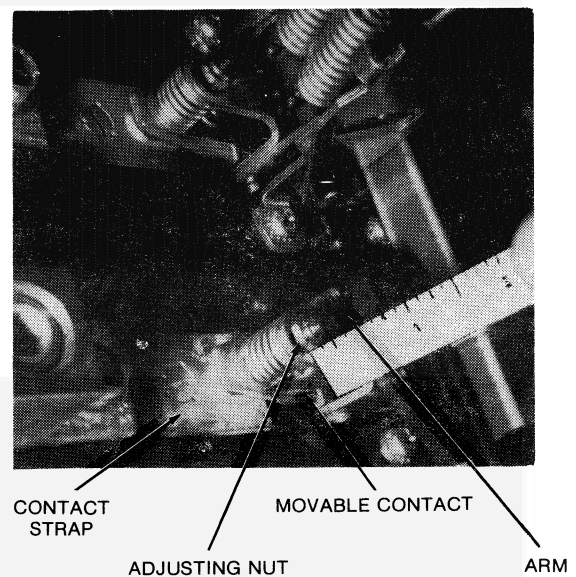

FIGURE 31. 100 AND 150 AMPERE OT CONTACT ADJUSTMENT
28. Move the actuator handle so that you close the contacts just installed. Adjust the nut for each contact until it has a clearance of 0.045 to 0.078 inch (1.2 to 1.9 mm) from the arm. See Figure 31. After settings, lock each nut with glyptol.